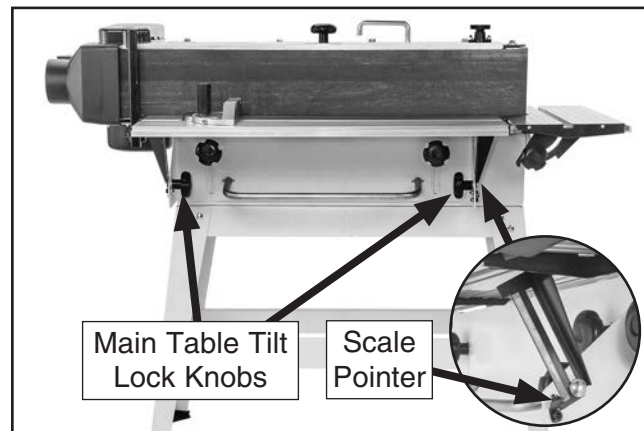

Figure 31. Main table tilt lock knobs and scale pointer location.
2. Loosen main table tilt lock knobs (see **Figure 31**).
3. Manually adjust main table angle, using scale pointer as guide (see **Figure 31**).